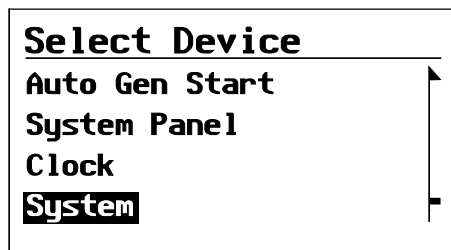

Figure 10 Select Device Menu
1. On the Select Device menu, use the down arrow button to highlight System, as shown in Figure 10.